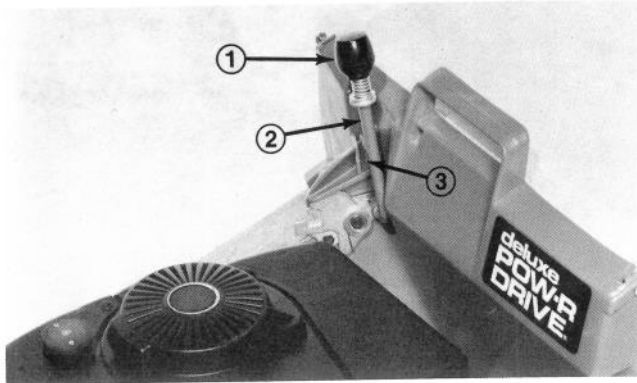

Figure 22
4. Squeeze lockout lever until it clears the housing latch. Then move handle rearward until it locks into notch at rear of bag latch (Fig. 22). The chute door in mower housing is now open, and mower is ready to bag grass.